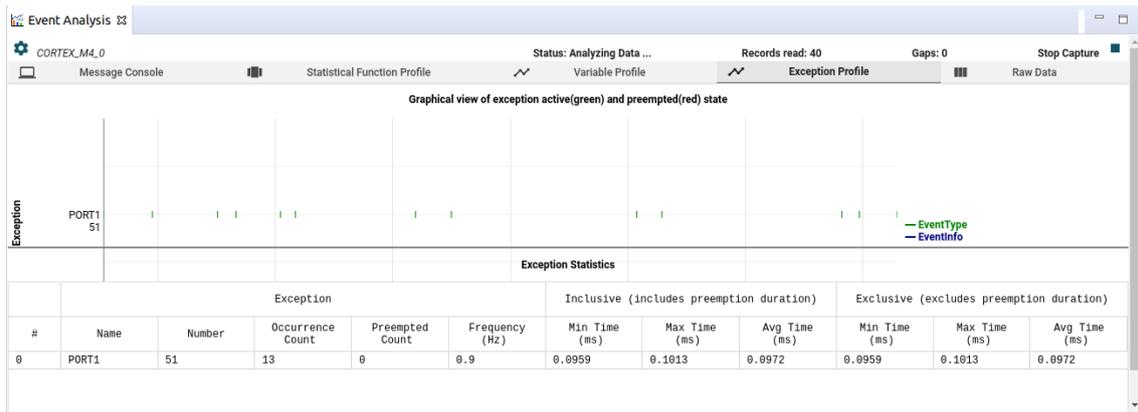

Figure 9: Exemplary trace of interrupts.
- Select *Exception Profile* in the *Event Analysis* window (right bottom corner of the IDE). You should now have a new plot that contains the recorded interrupt trace data (see Figure 9):
- **Exception Statistics** Displays statistic informations of all events, e.g. name (*PORT1*), Occurrence Count (13), etc., see Figure 9.